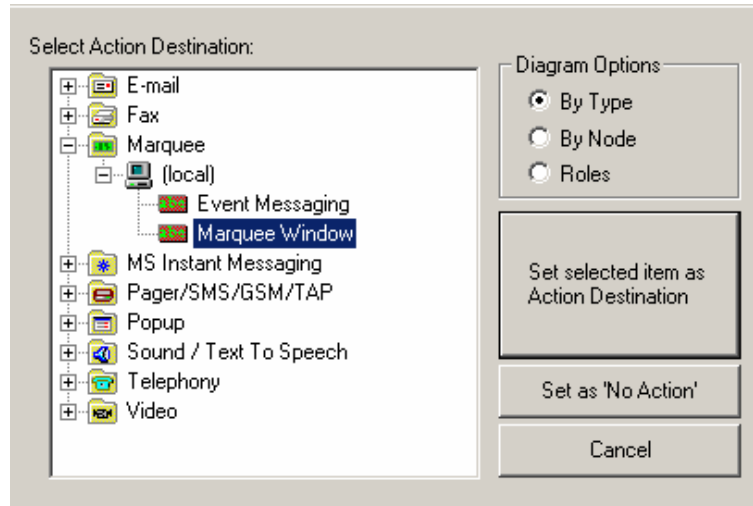

Figure 2.29. Selecting an Action Destination
4. In the **Alarm Actions** field, select what you want to occur from the list under **Action Destination**. Clicking the ... button in each **Action Destination** row opens the **Select Action Destination** dialog box, as shown in **Figure 2.29**. Action destinations can be configured multimedia agents (e.g. Marquee Window) or roles (e.g. General Manager). Select an action destination from the tree control on the left and then click the **Set selected item as Action Destination** button, as shown in Figure 2.29.
In the **Action Destination** field, you can also select **<NO ACTION>** by clicking the **Set as 'No Action'** button, as shown in Figure 2.29. When this option is selected, the Multimedia Server will wait a specified amount of time (the delay time) before executing the next action.